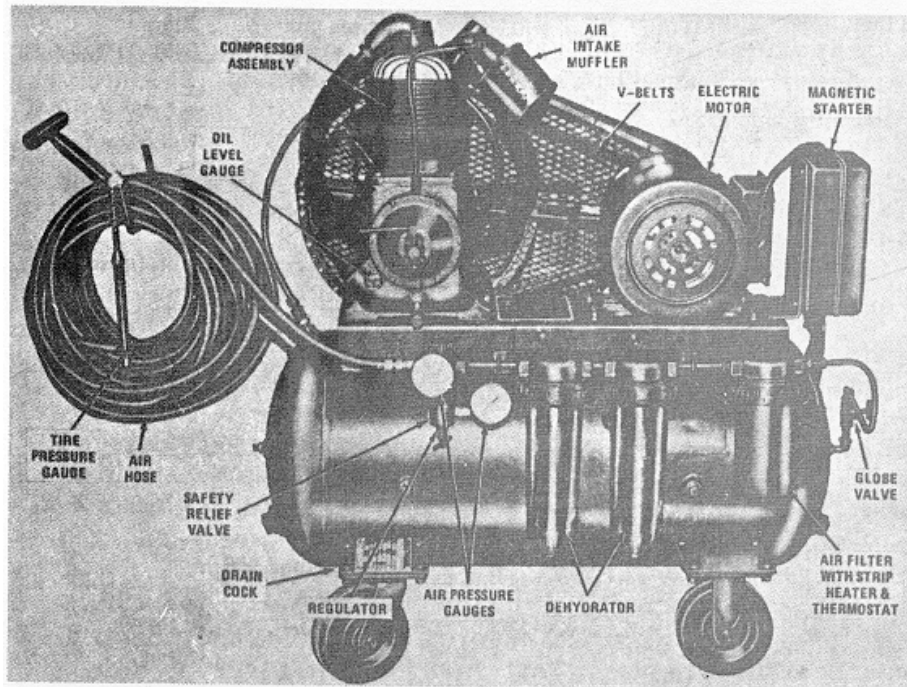

Figure 1. Air compressor, right side view
A. The model HR2-3M-1 air compressor (figs. 1 and 2) is a portable, castor mounted, reciprocating type compressor. It is designed to deliver 5 cfm (cubic feet per minute) of air compressed to 175 psi (pounds per square inch) pressure. The compressor is electric motor driven. The air compressor is a two cylinder, two-stage, air-cooled unit. It will deliver 5 cfm at 175 psi to the air receiver tank. The air receiver tank is of welded steel